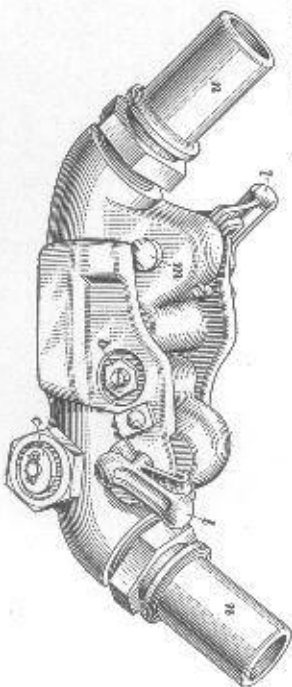
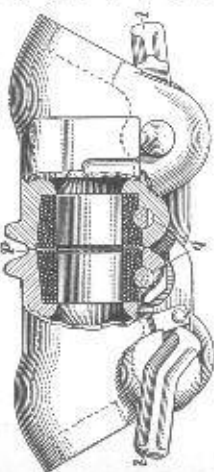

FIG. 8
FIG. 9
8. Steam Hose Coupler.—A view of two steam hose couplers coupled together is given in Fig. 8, and a sectional view of them is given in Fig. 9. This coupler is known as the Positive Lock Steam Coupler. In the illustrations, *b* are brass bolts, one being placed in the top of each coupler head cross-wise with the gasket. The gravity trap *c* is furnished when
specified, but is not furnished otherwise on account of the tendency to leak steam. A drainage groove *d*, Fig. 9, about $\frac{1}{8}$ inch wide is provided across the narrow projecting metal
It will be seen in Fig. 9 that the iron boss on the coupler head encircles the gasket and is machined off so that it comes just flush with the face of the gasket when the gasket is cold. When the couplers are coupled, the two iron bosses come squarely together with the cold gaskets barely touching each other so the gaskets cannot be crushed. Also, when the gaskets are cool any water in the hose can leak past the gaskets and escape through the drainage port *d*, Fig. 9.